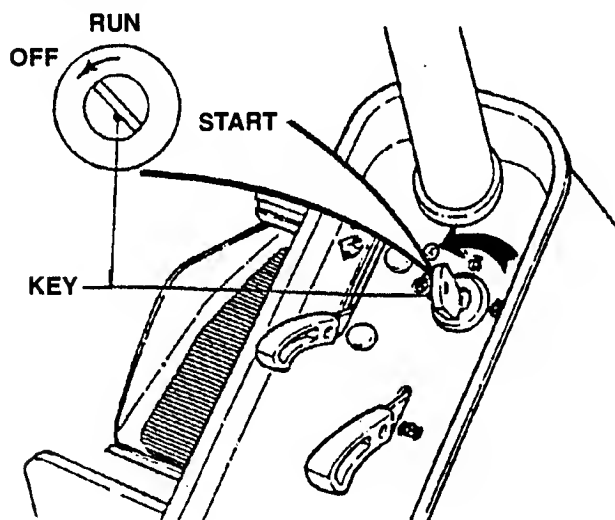

FIGURE 2.11
1. Stop engine by turning key to the "OFF" position. See Figure 2.11.